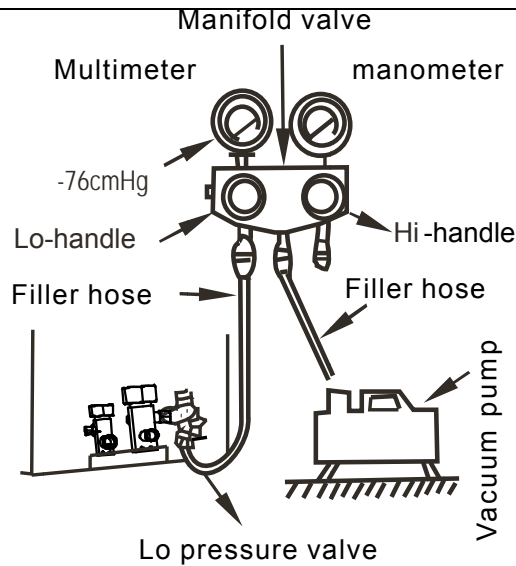

Fig 2-13
5.3.4 Use a vacuum pump to expel the air (Fig 2-13)